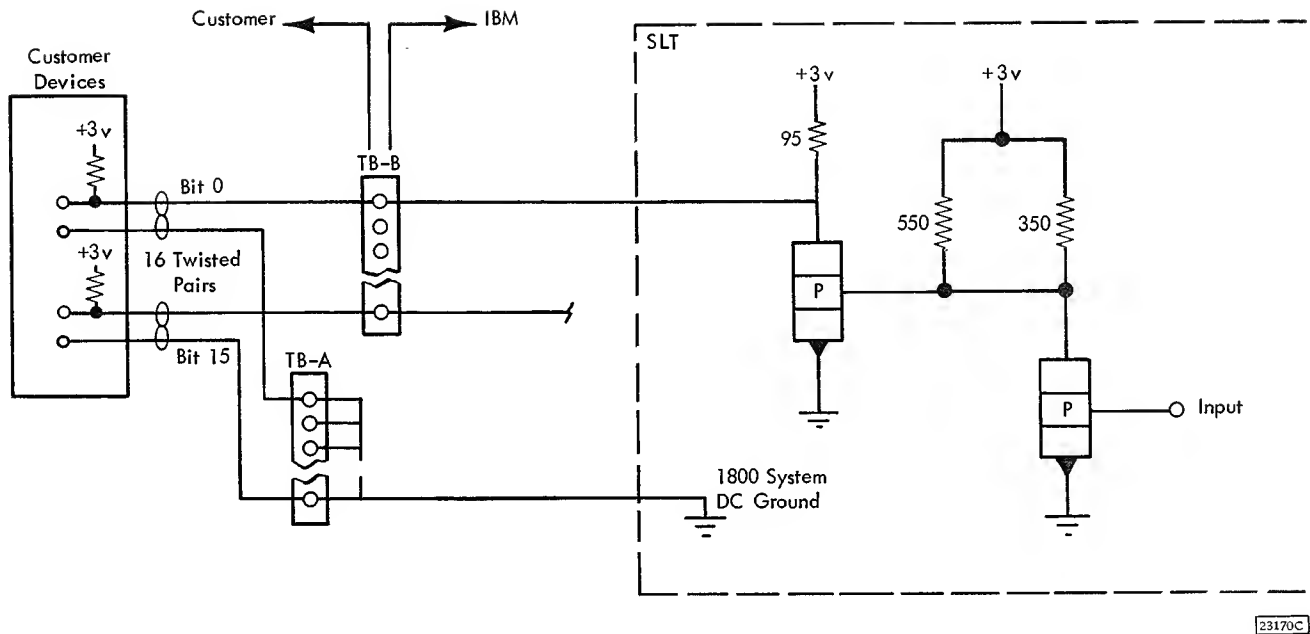

Figure 28. Register Output Terminal and Circuit Schematic (simplified)
6. Circuit Description: Figure 28.